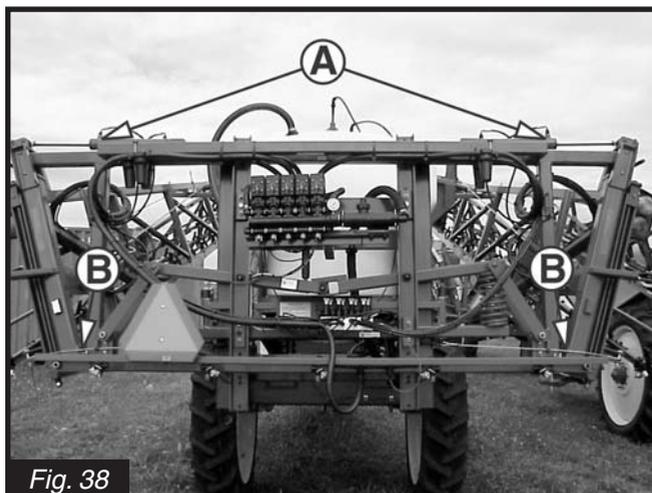

Fig. 38
3. Check that the tilt cylinders (A) (Fig. 38) are *completely* extended. Adjust if necessary (HZ Only).
4. Check that the cables are routed over the center section nozzle brackets (B) (Fig. 38).